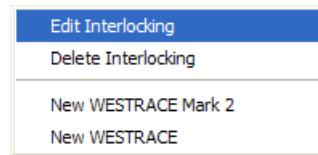

Figure 4.4 Interlocking icon right-click menu
- a) right-clicking the interlocking icon to invoke the pop-up menu shown in figure 4.4;